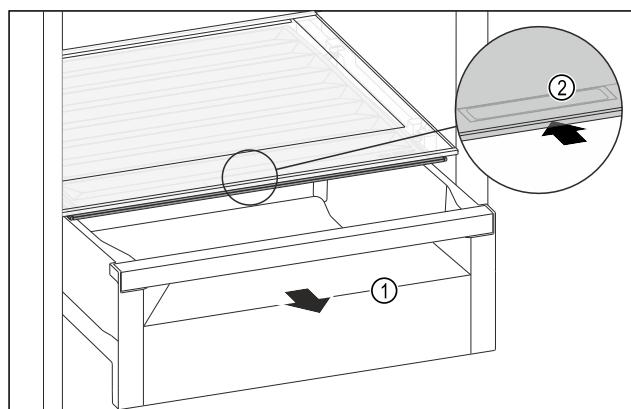

Fig. 136
- Pull out the drawer Fig. 136 (1).
- Grasp the recessed grip Fig. 136 (2) on the compartment lid and push the compartment lid backwards at the same time.